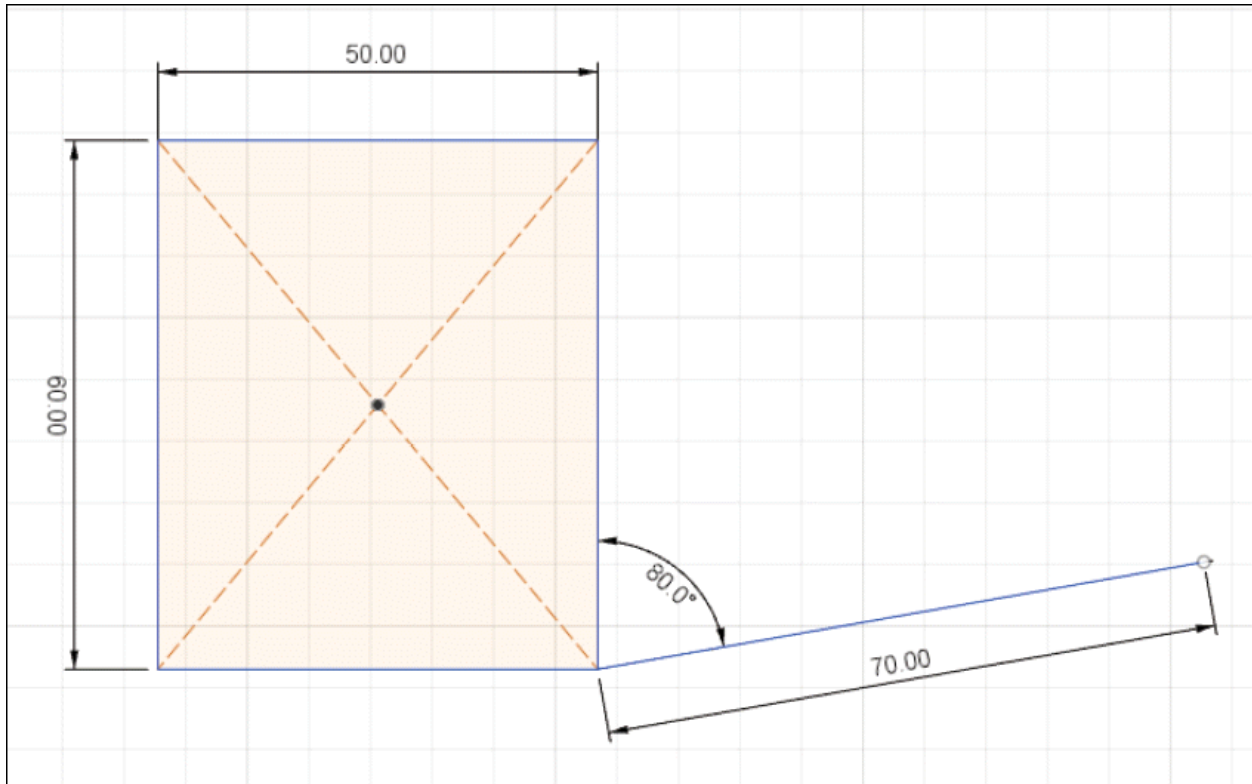

Figure-11. Creating Angular Line
- Select **Line** tool from **CREATE** drop-down. Create a line of length as **70** and angle of **80** degree as shown in Figure-11.